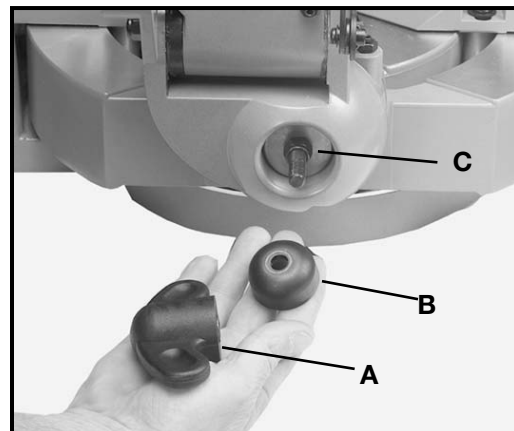

Fig. 31
After a long period of time, it may become necessary to adjust the sliding fit between the trunnion (A) Fig. 30, and the bevel bracket (B) by tightening adjusting nut (C), Fig. 31, located underneath the bevel lock (A), Fig. 31, and collar (B) Fig. 31.